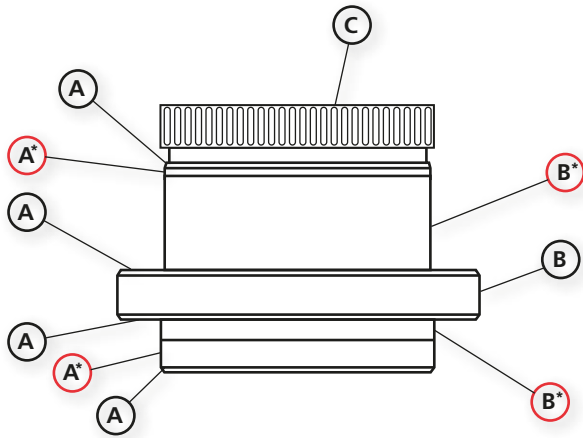
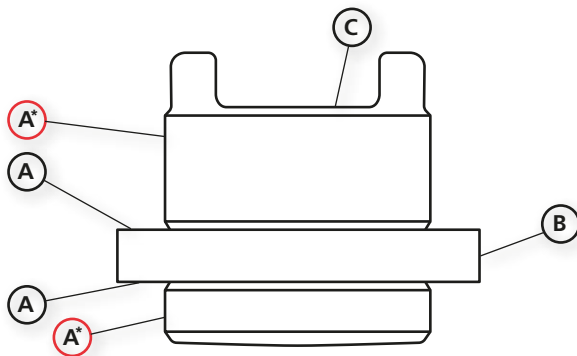

Figure 8 – Splined output sleeve, important surfaces
Figure 9 – HOB3 dog drive output sleeve, important surfaces
The output sleeve (14) can be easily removed from the gearbox by first removing the spigot ring (15) from the baseplate (16). A small force may have to be applied to the face marked 'C' in Figure 8 to assist in removing the output sleeve.
For all gearboxes, apart from HOB3, see Figure 8.
For the HOB3 gearbox, see Figure 9.
**⚠ IMPORTANT:** Before re-fitting the output sleeve after machining, check that the surfaces marked 'A' in Figure 8 and Figure 9 are not damaged. Damaged surfaces can break the gearbox seals or bearings and cause water ingress or grease leakage.
An anti-friction compound containing molybdenum disulphide, such as MI-Setral-9M, should be applied to the faces marked with an asterisk '\*' in Figure 8 and Figure 9 before inserting the output sleeve back into the gearbox. For clarification on the suitability of an anti-friction compound, please contact Rotork.
**⚠ IMPORTANT:** Before fitting the output sleeve, check that the surfaces marked 'A' in Figure 8 and Figure 9 are not damaged. Damaged surfaces can break the gearbox seals or bearings and cause water ingress or grease leakage.
An anti-friction compound containing molybdenum disulphide, such as MI-Setral-9M should be applied to the faces marked with an asterisk ‘\*’ in Figure 8 or Figure 9 (whichever is applicable), before inserting the output sleeve back into the gearbox. For clarification on the suitability of an anti-friction compound, please contact Rotork.